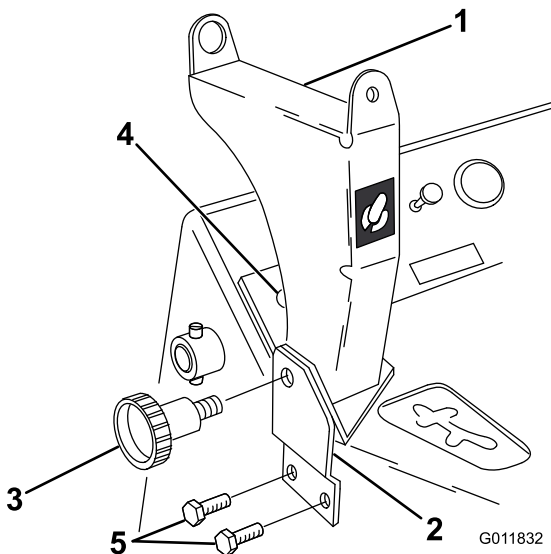

Figure 5
2. Align the bracket assembly on the left side of the traction unit as illustrated in Figure 5.
6. Using a 3/8 inch drill bit, drill the hole for the control bracket in the control panel (Figure 5).
7. Install the mounting bracket with the 2 self-tapping screws (5/16 x 3/4 inch) (Figure 5)
4. Mark the hole locations on the traction unit for the two mounting bracket holes and for the hole in the control bracket on the control panel (Figure 5).
5. Using an 0.290 inch (size L) drill bit, drill the holes for the mounting bracket through the traction unit frame (Figure 5).